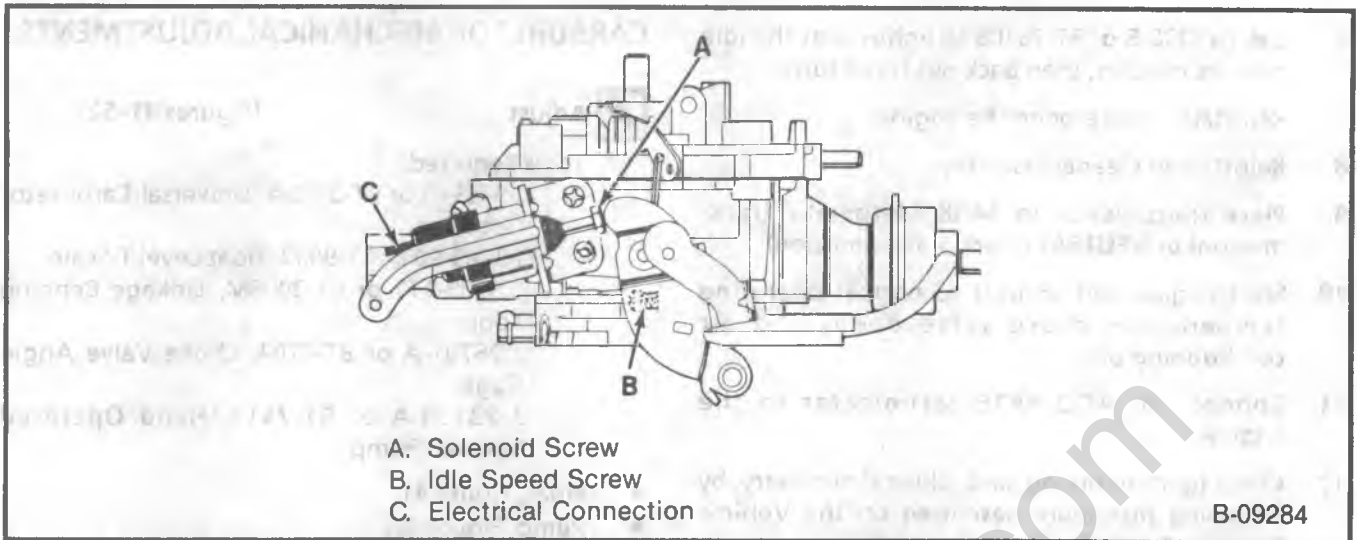
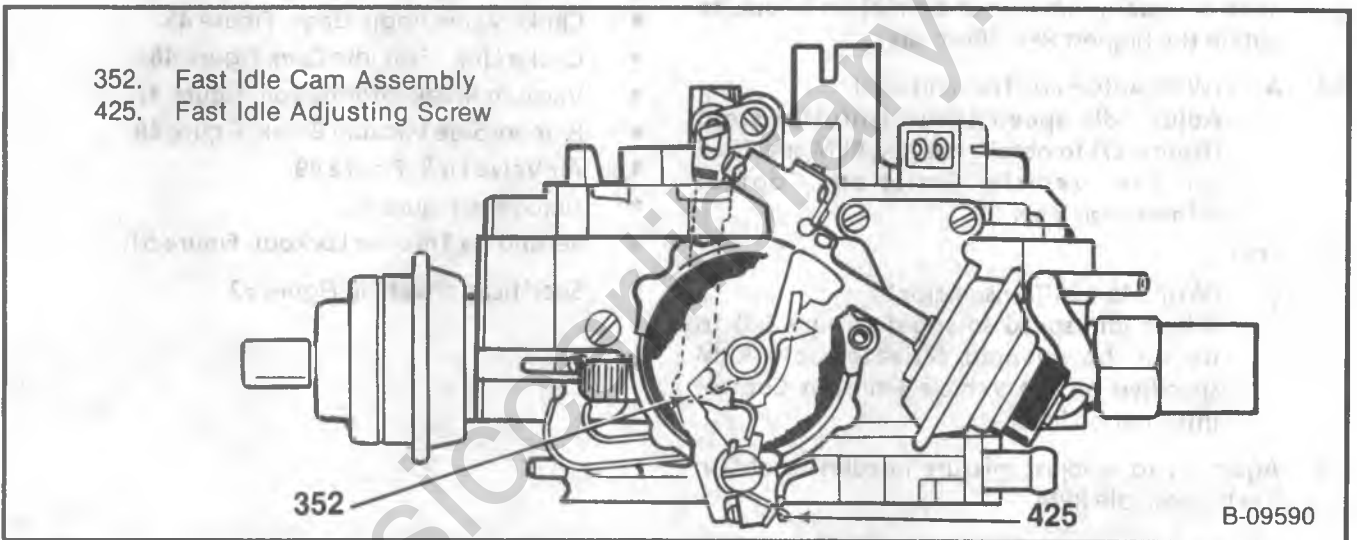

Figure 38 - Idle Speed Adjustment - With Idle Speed Solenoid
Figure 39 - Fast Idle Speed Adjustment
6. If the plunger moves in and out as described in steps 3 and 4, adjust the solenoid. Refer to Figure 38 and Vehicle Emission Control Information Label for adjustment procedures.
- Refer to Figure 38 and Vehicle Emission Control Information Label for adjustment procedures.
Adjust idle speed solenoid (Figure 38) to obtain the solenoid activated idle RPM specified on the Vehicle Emission Control Information label.
Fast idle speed screw (Figure 39) to obtain RPM specified on the Vehicle Emission Control Information label.
Idle speed screw (base idle speed) (Figure 38) and fast idle speed screw (Figure 39) to obtain speeds specified on the Vehicle Emission Control Information label.